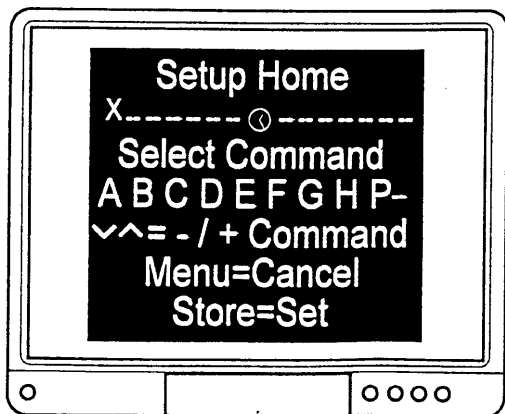

Figure 15.
- Step 3. Press 'Enter' on the keypad. The on-screen display will change to the display shown in figure 15.